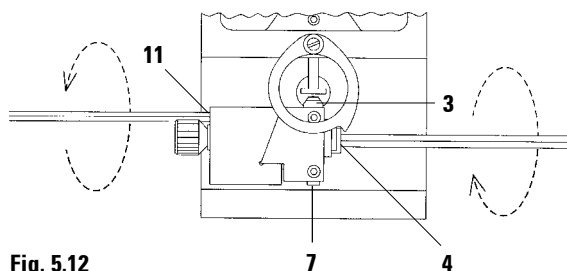

Fig. 5.12
- 6 Insert size-5 Allen key into regulating screw (4) insert size-2.5 Allen key into regulating screw (11) (Fig. 5.12).
The arrows in Fig. 5.12 indicate clockwise sense of rotation.